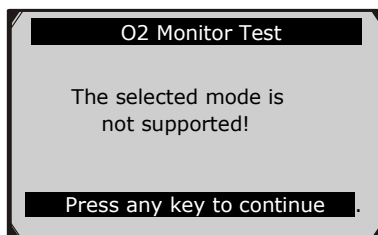

Figure 5.24
- If the vehicle does not support the mode, an advisory message will be displayed on the screen. (Figure 5.24)